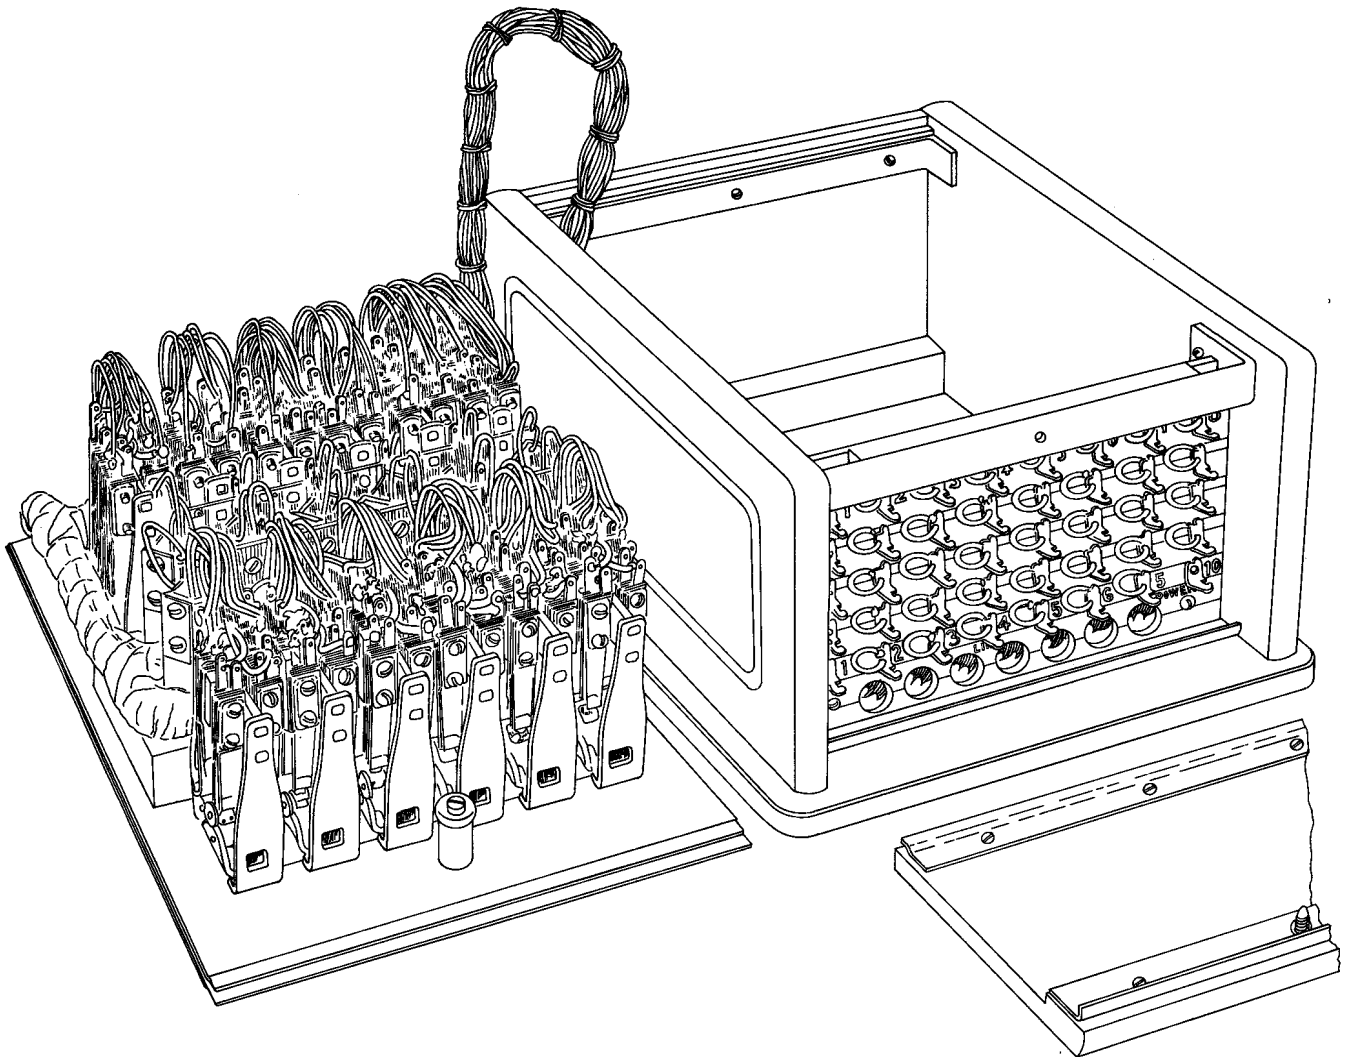

Fig. 3 – Internal View of Key Box
4.01 Small wooden boxes containing line pickup and hold keys, line and busy lamps, and a terminal strip to accommodate wiring cable (see Fig. 3).